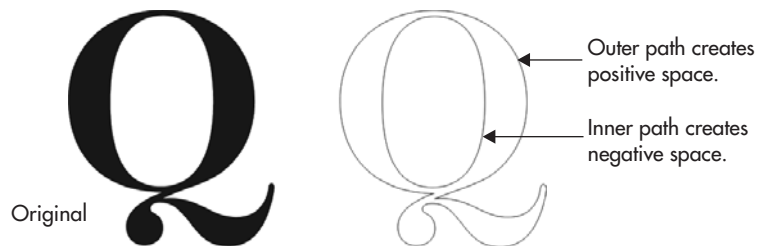

FIGURE 10-12 In vector artwork, “holes” in objects are achieved through compound paths, paths that are combined to create a single object.
1. Choose the Text tool (F8), click once to define a text insertion point, and then type an uppercase *Q* character. You can assign the character any typeface you like; the more ornamental the character, the more obvious the compound path soon will be. This character shape shown in Figure 10-12 has two paths that are combined: one represents the “positive” space, and one represents the “negative” space shape.